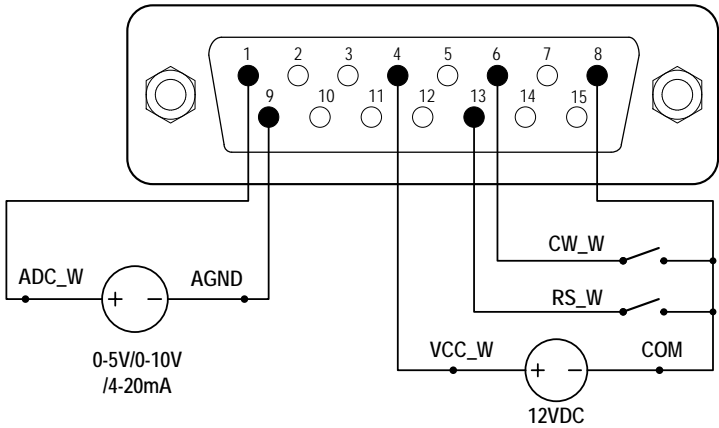
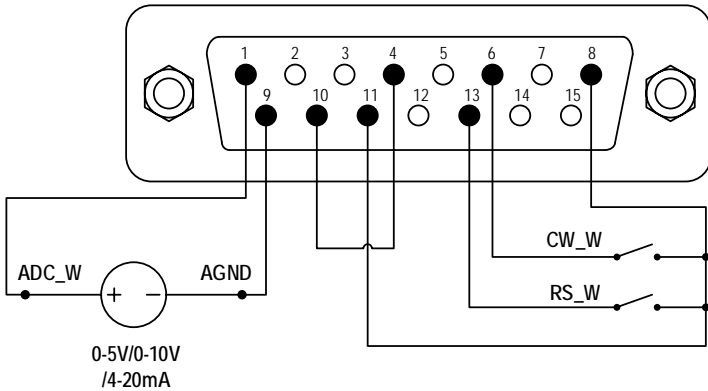

Figure 13. DB15 Wiring with External 12VDC Power Source
Figure 14. DB15 Wiring with Internal 12VDC Power Source
- 1) Switch the power off. Wire the DB15 connector as shown in Figure 13 or Figure 14. Connect it to the DB15 port on the rear of the pump.